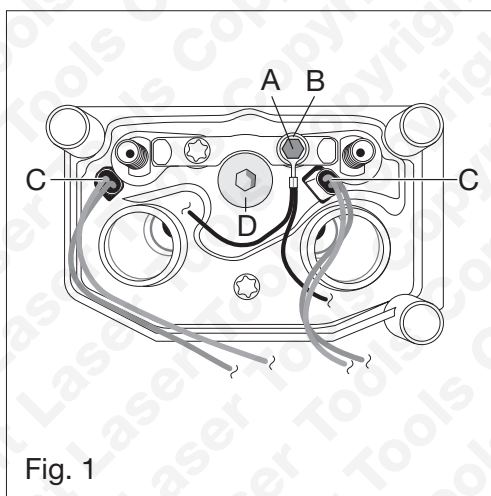

Fig. 1
1. Refer to Figure 1: First remove nut **A**; then remove earth cable **B**.